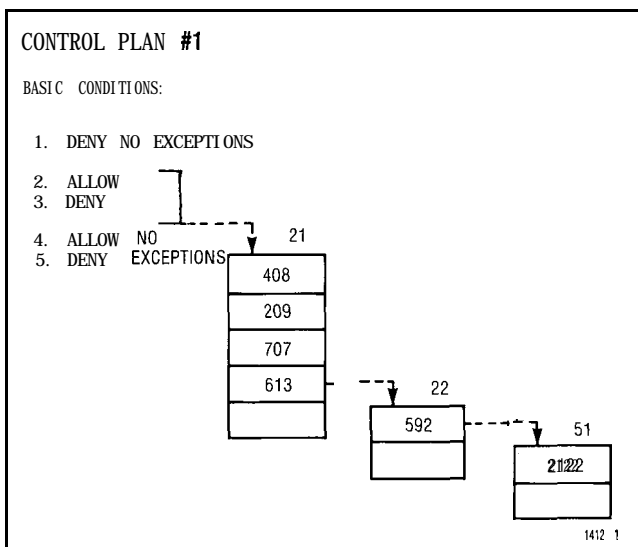
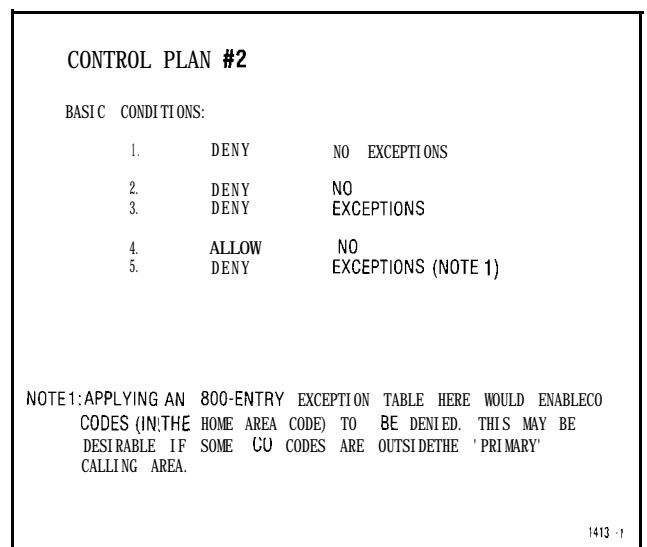

Fig. 5-5 Control Plan 1 of Example
Fig. 5-6 Control Plan 2 of Example
5.15 The only remaining task is to define the Control Plans. Figure 5-5 shows the set-up for Control Plan 1. Figure 5-6 shows Control Plan 2, Figure 5-7 shows the last Control Plan needed. In all three figures (5-4 to 5-7) the type of any digit tables used can be found by noting the table number and referring to Table 4-2.